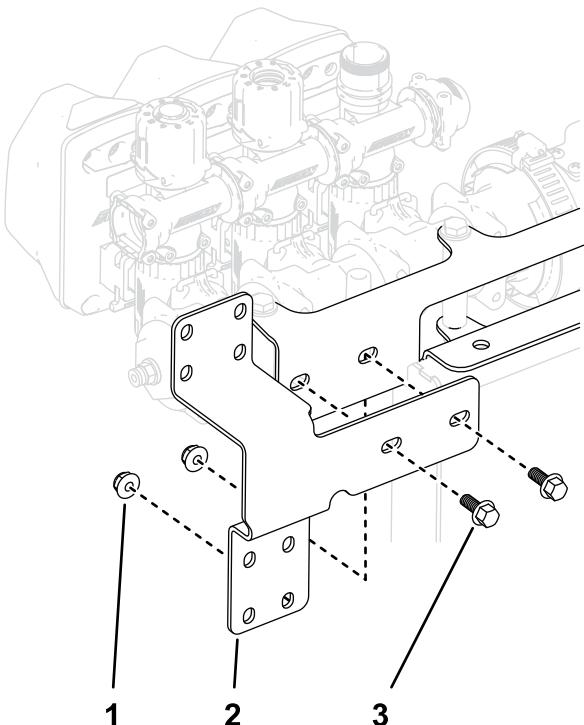

Figure 25
2. Install the control valve bracket onto the valve-mount frame using 2 flange-head bolts (1/4 x 5/8 inch) and locknuts (1/4 inch) as shown in Figure 25.